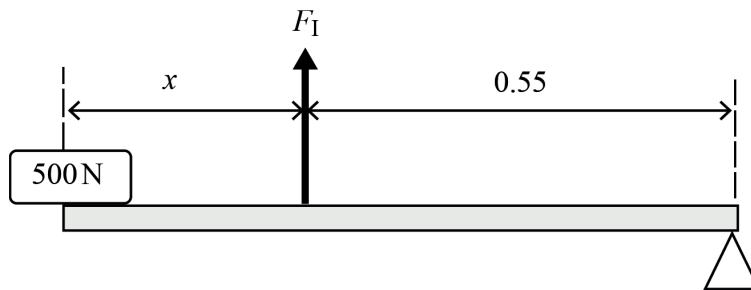

Fig. 3
- 3 (a) **Fig. 3** shows a diagram of a lever used to lift a load of 500 N. It has a Mechanical Advantage (MA) of 0.64. The input force, F_i , is x m from the load and 0.55 m from the fulcrum.